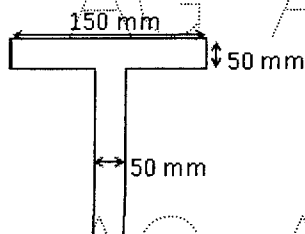

Figure 1
- f) A simply supported beam has a T-section as shown in Figure 1 and carries uniformly distributed load. Determine the bending stress at the extreme top fibre if the stress at the extreme bottom fiber is 125 N/mm^2 . The depth of the web of T-section is 150 mm. [3]